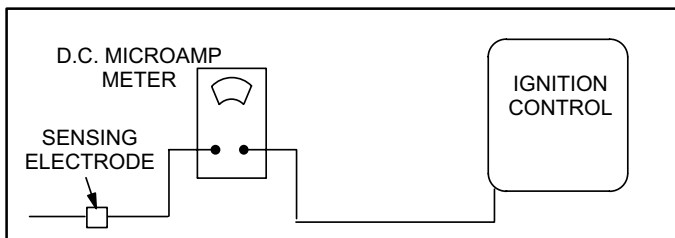

FIGURE 26
- 2 - Remove lead between sensing electrode and ignition control. Install a microamp meter in series between the sensing electrode and the control. See figure 26.